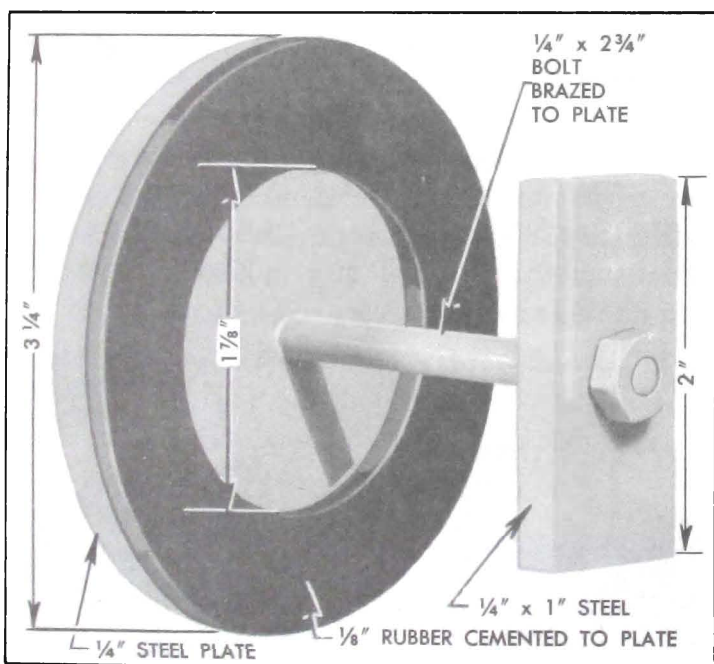

Figure 5-50—Plate and Washer for Pump Test
1. Prepare a plate with rubber washer to close the opening in converter pump hub, as shown in Figure 5-50. The bolt head should be brazed to the plate to seal the bolt hole, and the  $\frac{1}{8}$ " thick rubber washer should be cemented to the plate.